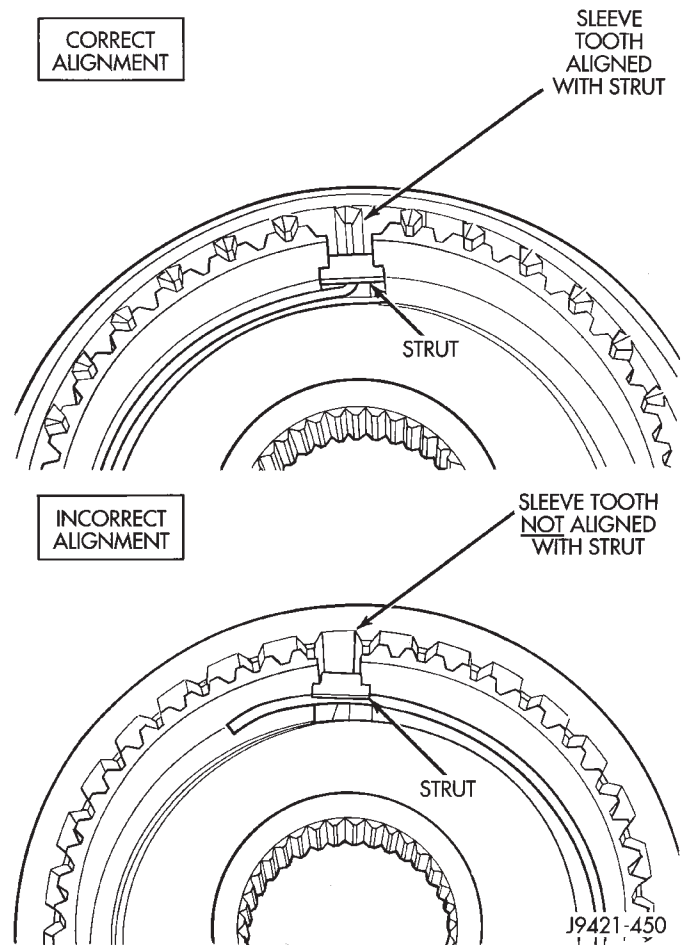

Fig. 60 Correct Synchro Strut And Sleeve Alignment (Synchro Models Only)
(1) Install sleeve on hub. Be sure sleeve is installed with beveled spline ends facing stop ring and short end toward rear of shaft. In addition, on synchro models, be sure a sleeve tooth is aligned with each synchro strut (Fig. 60).
CAUTION: Correct sleeve alignment is important to proper shifting on synchro models. Be sure a sleeve tooth is aligned (centered) over each synchro strut (Fig. 60). Gear clash will occur if the struts and sleeve teeth are misaligned.